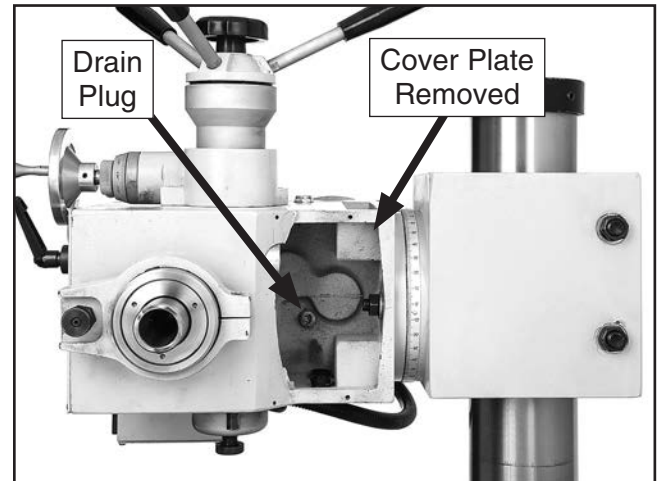

Figure 40. Headstock drain plug (headstock tilted 90° for clarity).
5. Remove cover plate from bottom of headstock (see **Figure 40**).
6. Remove drain plug (see **Figure 40**) from underneath headstock and allow oil to drain into pan.